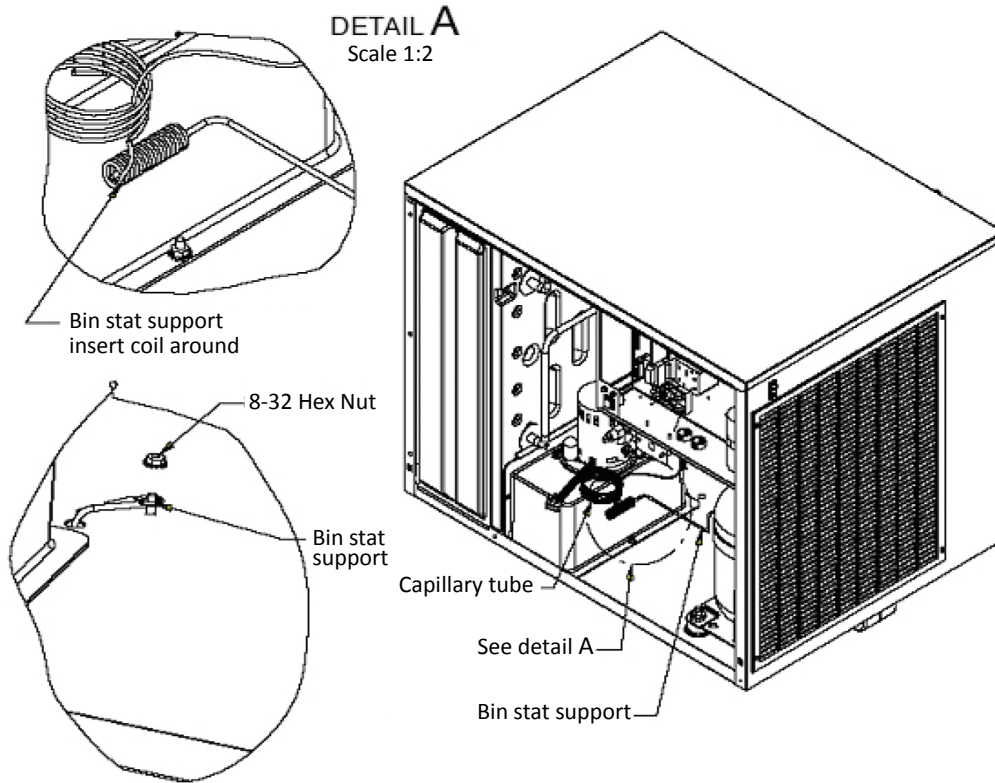

Figure 4. Bin Stat Assembly
- Assemble bin stat to icemaker, as shown Figure 4. The bin stat must not interfere with the agitator rotation and should not be in the path of ice falling from the icemaker.